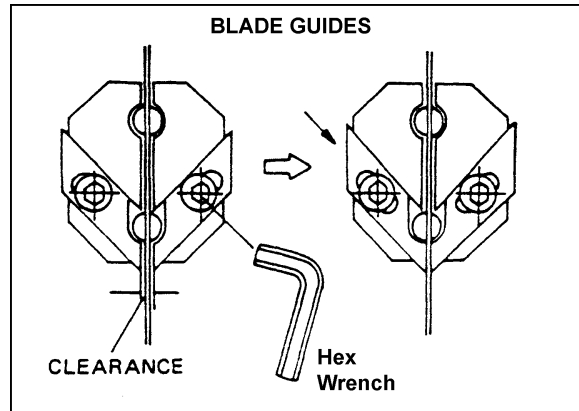

Figure 9
- Loosen the socket head cap screws (Figure 9) on the blade guides.
- Tighten the socket head cap screws (Figure 9).